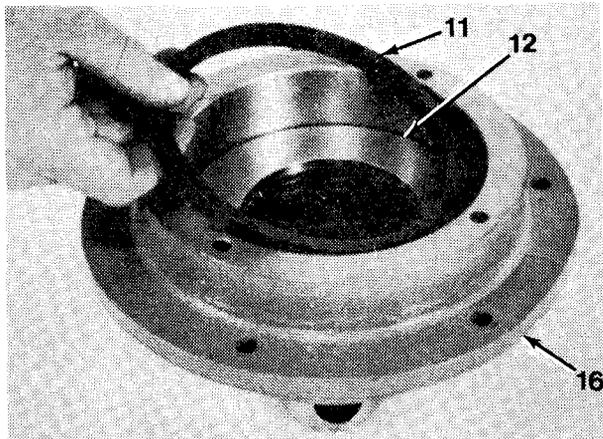

Figure 16-15
12. Install pressure plate (12) and piston back-up ring (11) in brake cylinder (16, Figure 16-15).